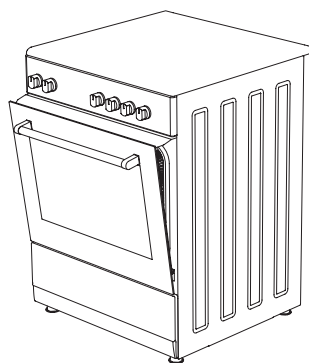

Figure 12
4. And then secure the safety panel in between oven and front cover by gently closing the cover. (figure 12)